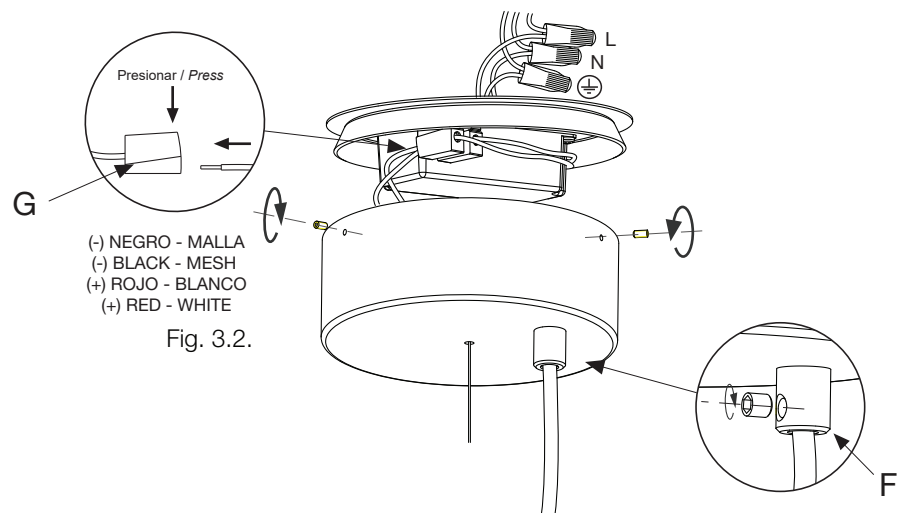

Fig. 3.2.
- 2.2. Feed the electrical cable through the hole in the ceiling rose. Secure the cable by means of the cable clamp (D). Make the electrical connections in the connectors (E) as shown in Fig. 3.2.